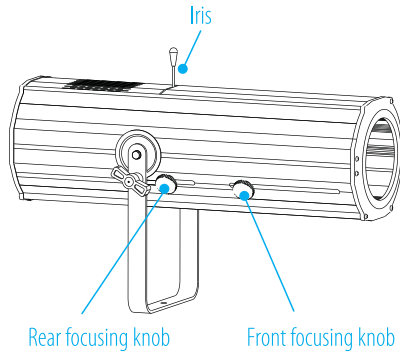

Figure 1
- **IRIS:** Adjust the size of the spot diameter, As in Figure 1.